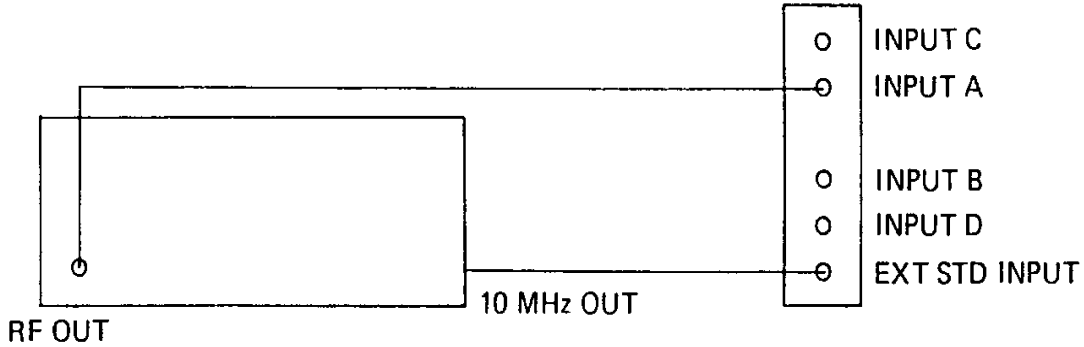

Figure 4-2, Input A High Frequency Sensitivity Test Configuration
4.1.6.4 Connect the Signal Generator to the 2251A as shown in **Figure 4-2**.